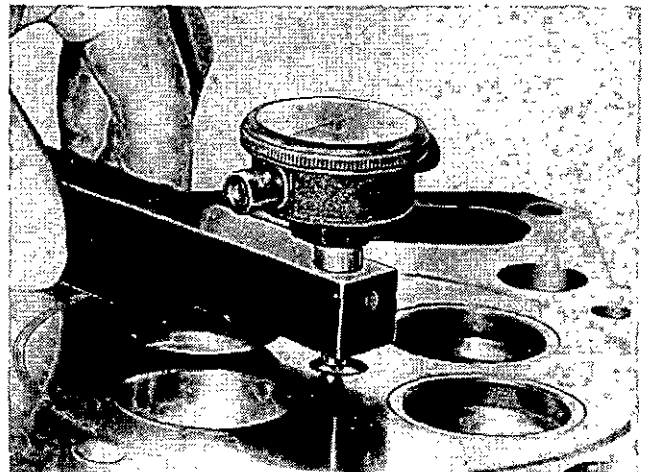

Fig. 2-24 (N10206). Measure The Protrusion Of The Injector Tip.
3. Install the injector assembly into the sleeve. Tighten the capscrews to 10 to 12 ft. lbs. [14 to 16 N•m] torque. Use the Part No. ST-547 Gauge Block to measure the protrusion of the injector tip, Fig. 2-24. The protrusion of the tip must measure 0.060 to 0.070 inch [1.52 to 1.78 mm].